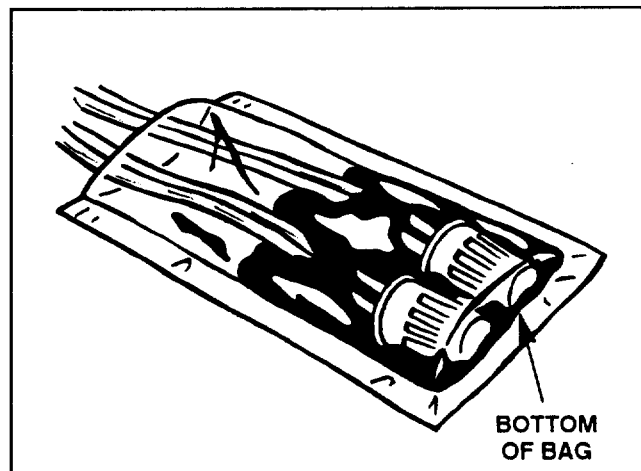

Figure 10
2. Hold both wire nuts together. Carefully slide the wire nuts completely into the bag of epoxy (Fig. 10). Wire nuts must contact the bottom of the bag.